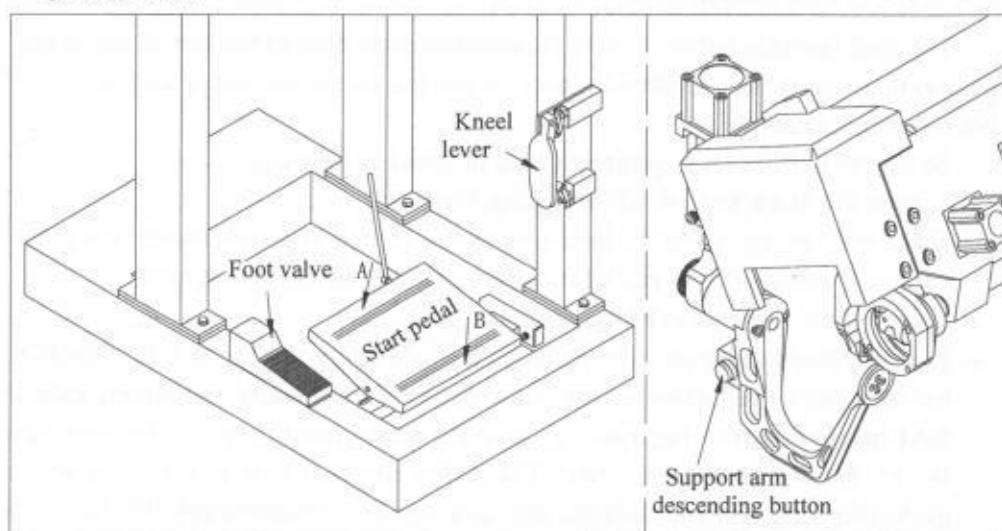

Fig.1
3.2 The function of start pedal, knee lever, foot valve and support arm descending button. (as shown in Fig.1)
3.2.1 Start pedal (Fig.1)